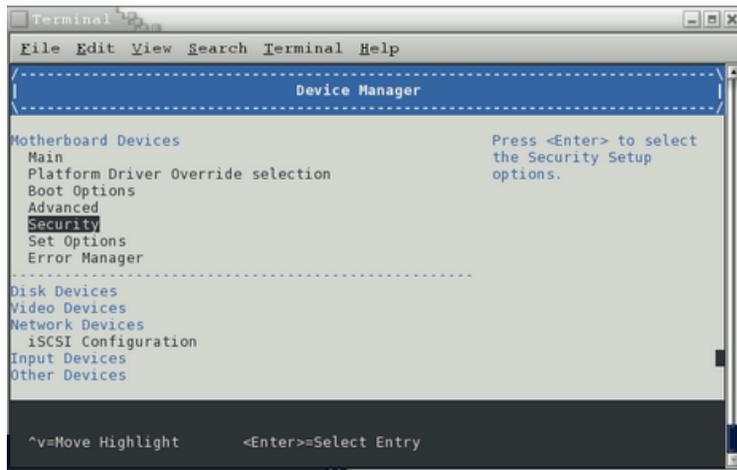

Figure 4-3 Device Manager Screen Security Option
4. From the **Device Manager** screen, select **Security**, as shown in Figure 4-3 on page 54.